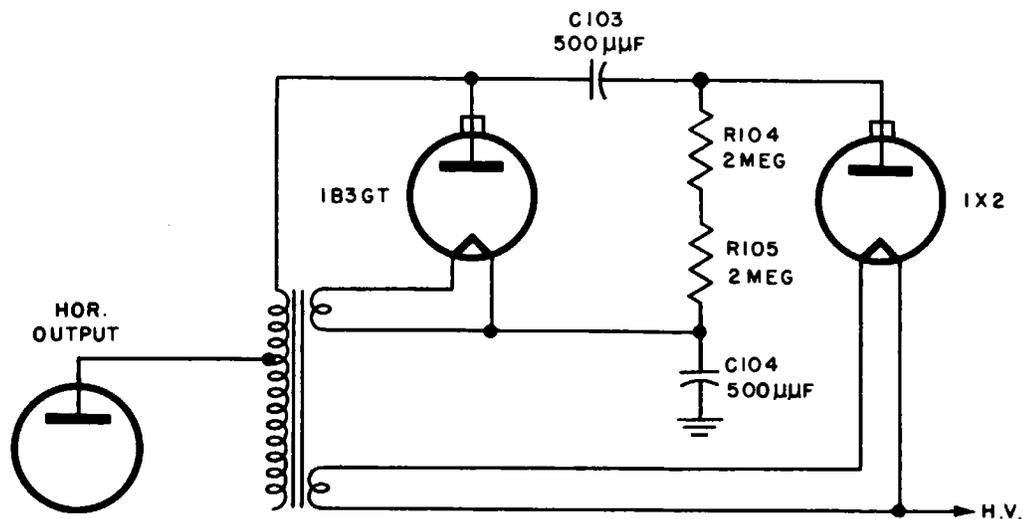

Fig. 3-7. Typical high-voltage doubler circuit. After Philco Corp.
**QUES. 3-7.** Noise appears in both the sound and the picture. The cause of the noise is immediately diagnosed as high-voltage arcing, but even in a darkened room no arcing can be seen. It is suspected that internal arcing is occurring in one of the high-voltage capacitors, in the circuit shown in Fig. 3-7. How may the defective one be located without test replacing both capacitors?
**ANS.** To check for internal arcing in a high-voltage filter capacitor, turn the receiver on for a few minutes. Turn the receiver off, and discharge the high voltage. Feel capacitors *C103* and *C104*, in the circuit of Fig. 3-7. If internal arcing is occurring in one of the capacitors, it will be warmer than the normally functioning capacitor.